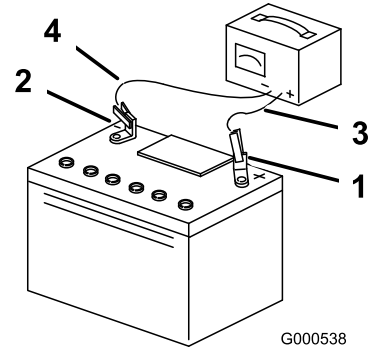

Figure 43
5. When the battery is fully charged, unplug the charger from the electrical outlet, and disconnect the charger leads from the battery posts (Figure 43).